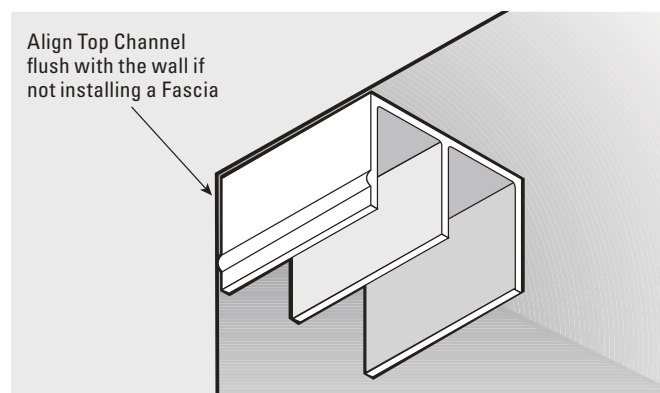

Figure 1
C. When cut to proper length, align Top Channel flush to the top front of closet opening making sure that the front of the Top Channel is flush with outside walls or jamb boards. Hold the Top Channel in the desired position and with your pencil, mark where the pre-drilled holes are in the Top Channel (See **Figure 1**).